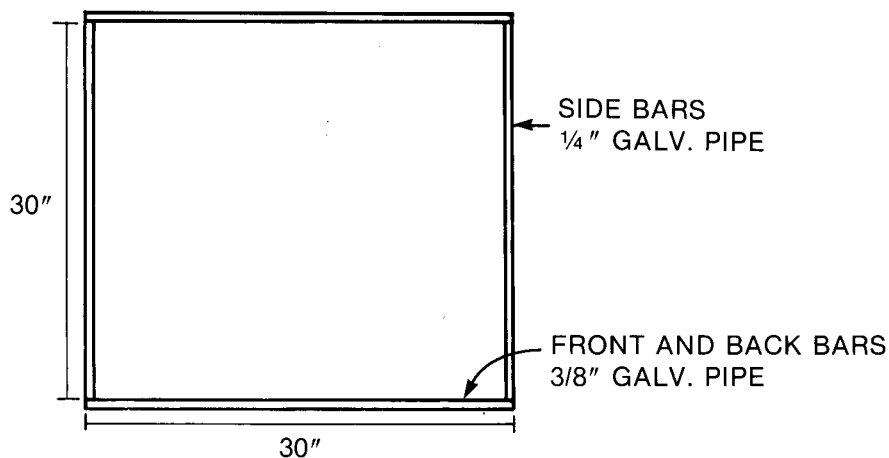

FIGURE 3. CONSTRUCTION OF DOOR FRAME
1. Cut two (2) 30-in. lengths of 3/8-in. galvanized pipe.
2. Cut two (2) 30-in. lengths of 1/4-in. galvanized pipe.
3. On a flat surface lay out the pre-cut pipe to form a square with the 1/4-in. galvanized pipe on opposite sides (see figure 3).